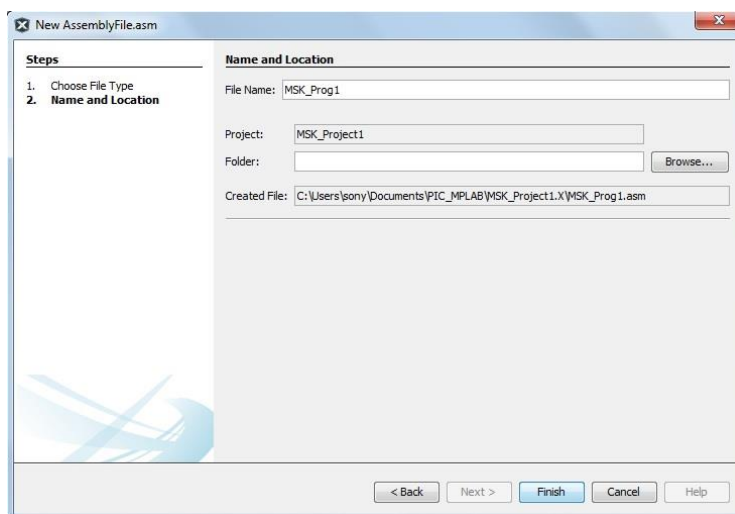

Fig 4.15 New Assembly File.asm Window
12. A “New Assembly File.asm” Window appears as shown in Fig 4.15. Enter the name of the file and select the location to save the file and click Next.